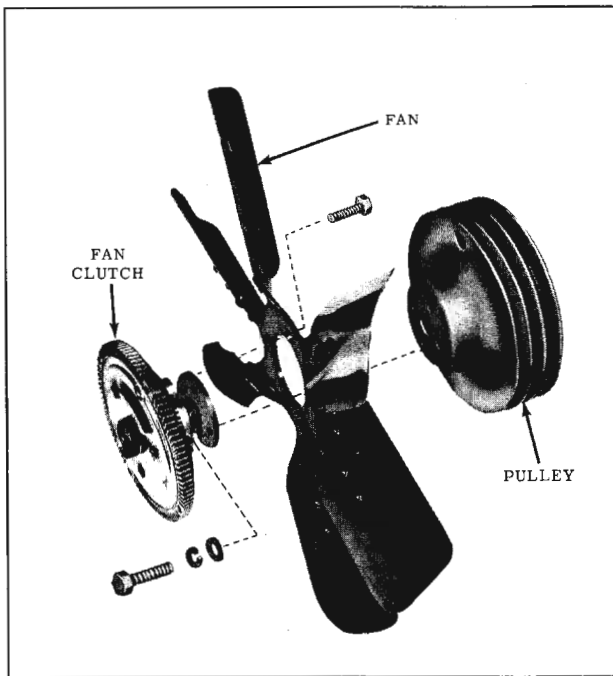

Fig. 8-54 Fan and Clutch Assembly
1. Remove the four fan and clutch to pulley attaching bolts. (Fig. 8-54)